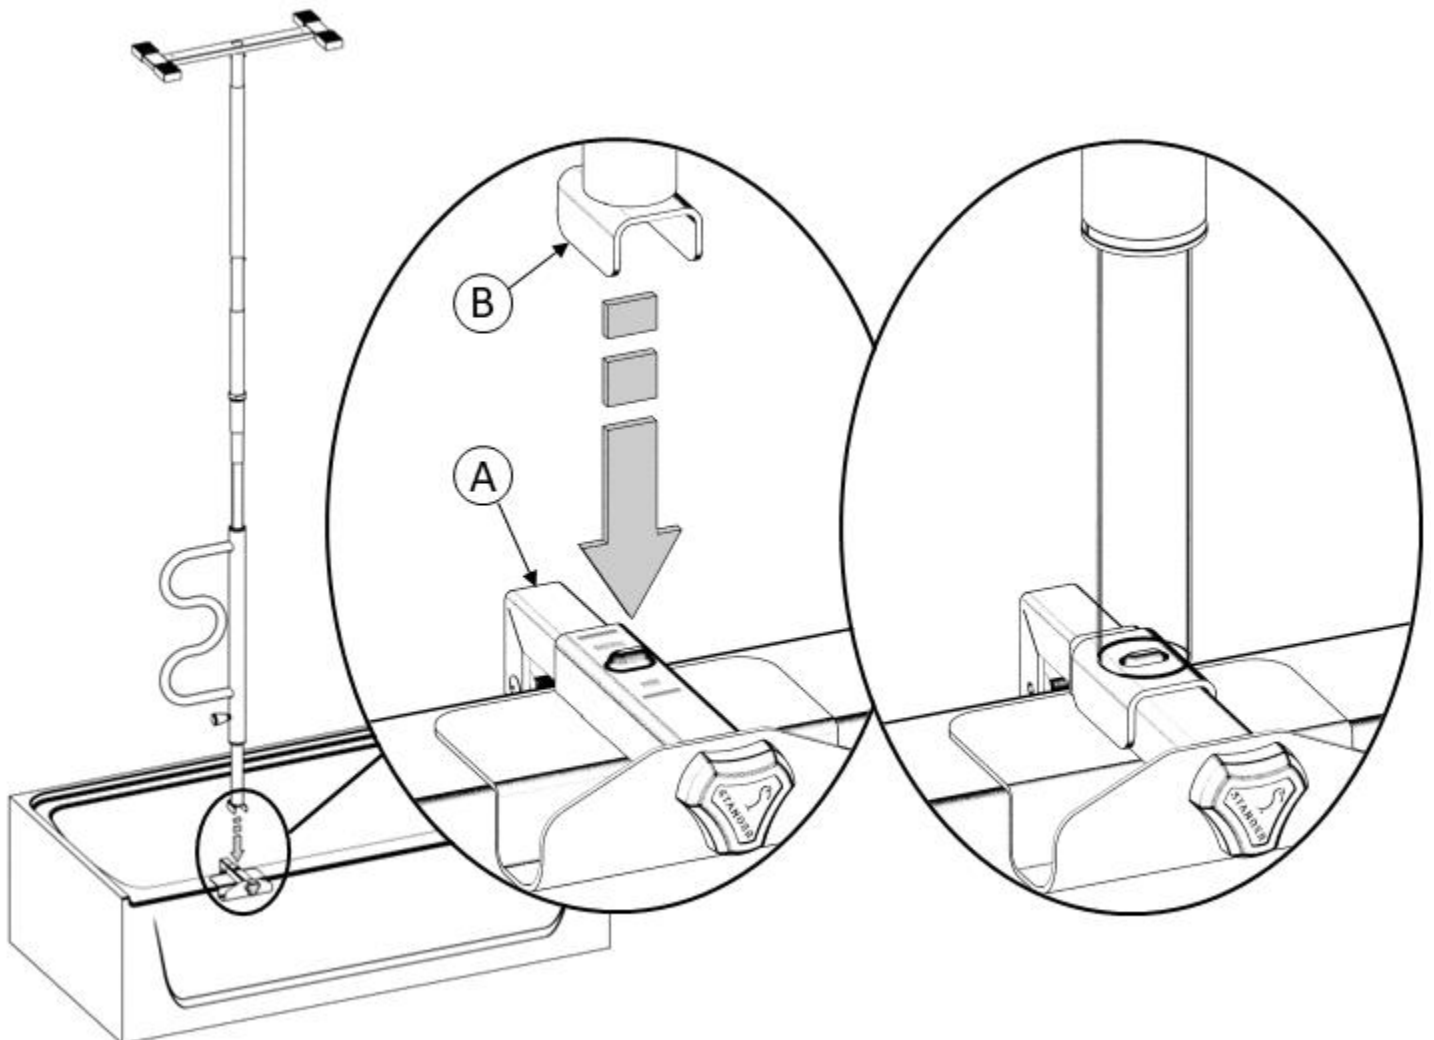

FIGURE 9
9. Insert **B** onto **A**. Ensure that the bump on **A**, aligns with the hole in **B** as shown in *FIGURE 9*. Cover red markings to ensure proper installation.